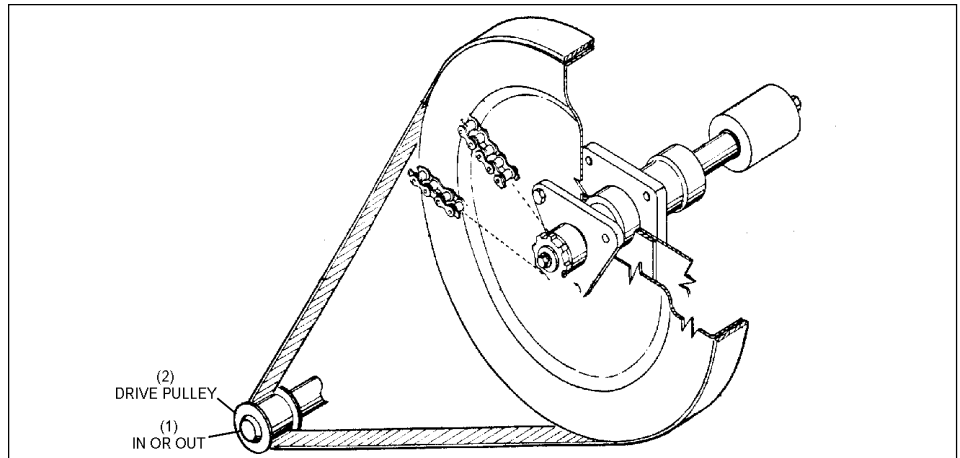

Figure 16. Adjust Tracking
3. Tracking is properly accomplished by moving the two (2) drive pulleys on the motor shafts, in towards or out away from the motor. Position these drive pulleys so the belts run centered on their perspective driven pulleys. Refer to *Figure 16*.